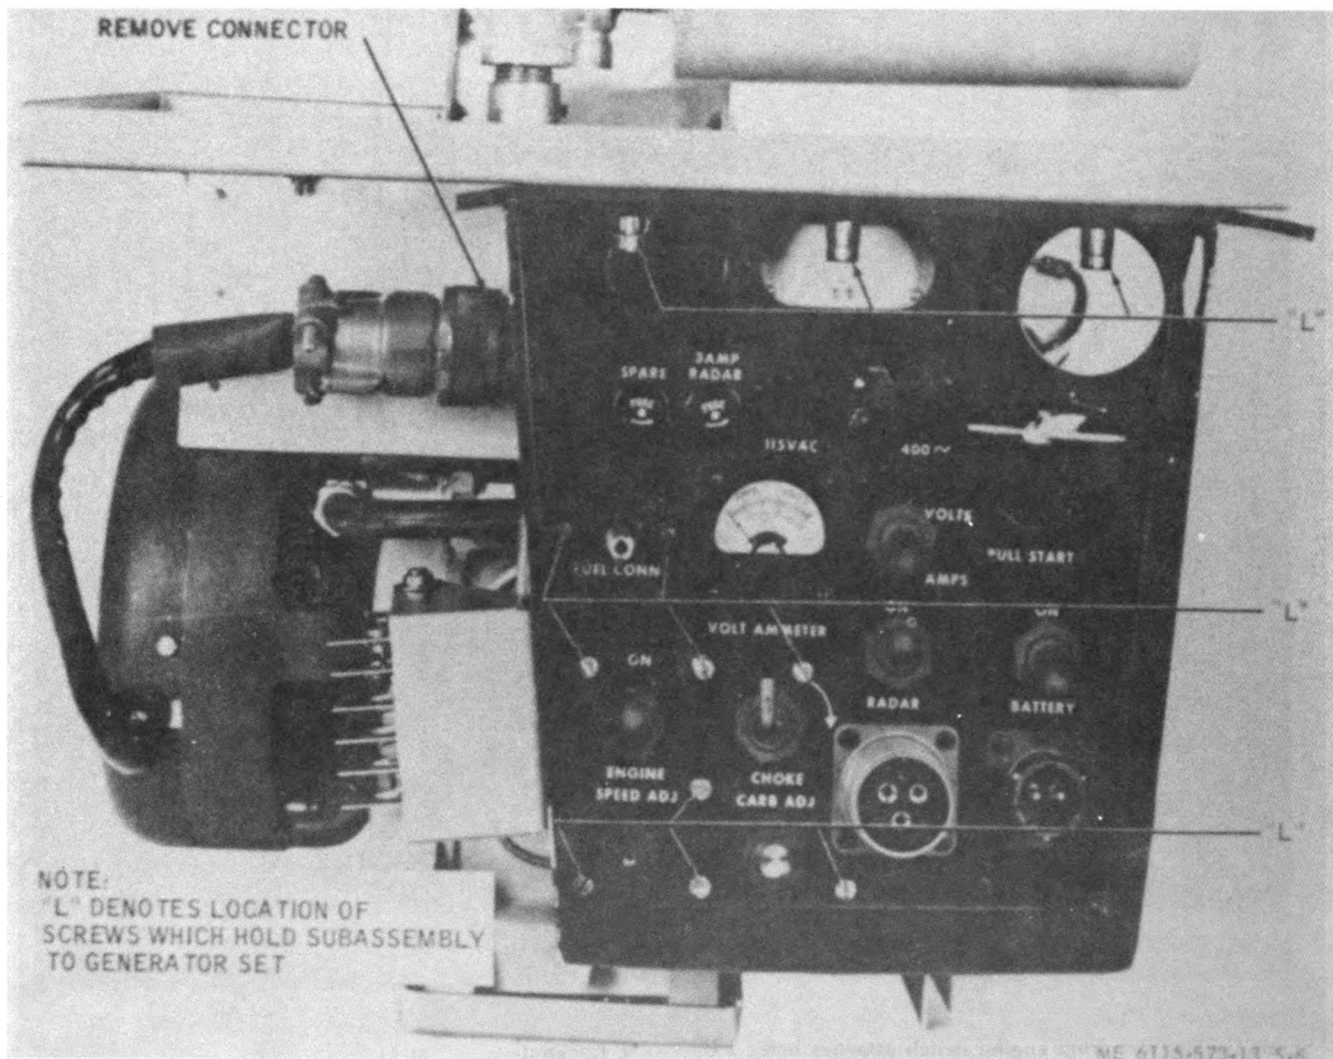

Figure 5-6. Electrical subassembly, removal and installation (PU-532 / PPS-4).
(1) Perform steps (1), (2), and (3) in *b* above.
(2) Disconnect the fuel connector from the front panel by removing the two retaining screws (L, fig. 5-6).
(3) Unplug the generator from the control panel (fig. 5-6)
(4) Remove the three screws (L) from the top
of the control panel and seven screws (L) which secure the control panel (fig. 5-6).